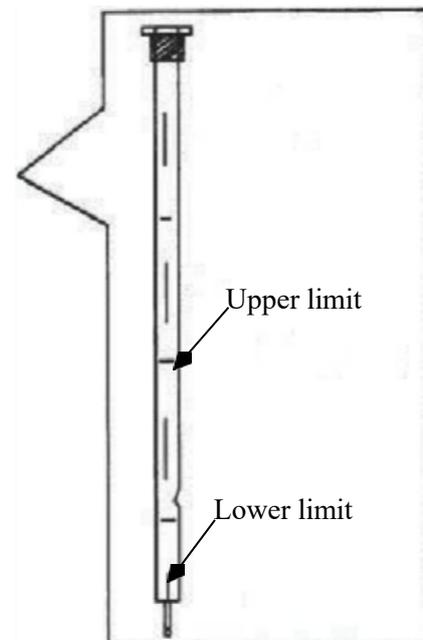

Figure. 8
4. Refilling the engine oil Figure 8
- b) Make the whole machine stable and horizontal, and refilling 90EP lubricant engine oil into the gear-box from oil hole at the top of the gear-box .when check the oil level, put the oil dipstick into the oil .(Note: not to turn the dipstick around), the oil level should be between the two limits of the Lower limit oil dipstick. (Refer to figure 8